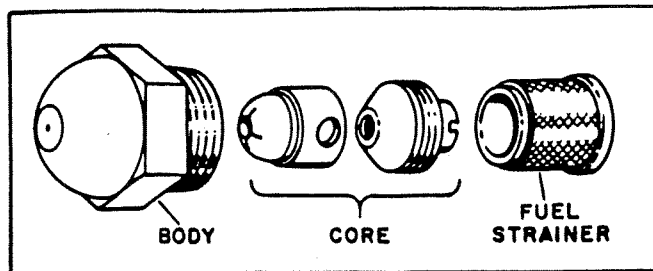

Figure 3. Exploded View of Spray Nozzle
b. Carefully disassemble the spray nozzle, as shown in figure 3, and immerse the parts in clean solvent. A soft, non-metallic brush may be used to assist in cleaning the nozzle parts. If foreign material clings to the grooves in the core or the orifice in the body, use a soft wood stick (such as a sharpened match stick) to clean the grooves and orifice. Rinse the nozzle parts in clean solvent and dry them with filtered, compressed air. After cleaning, reassemble